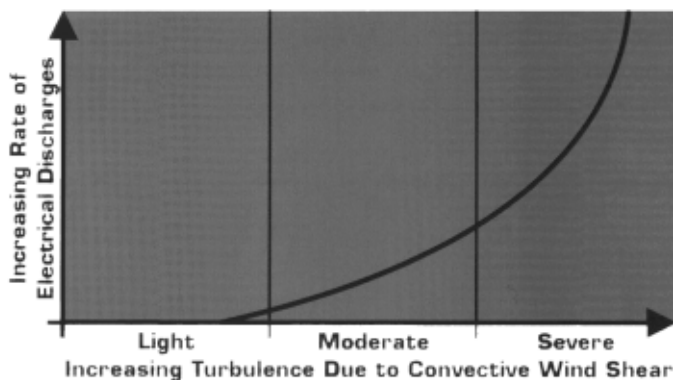

Figure 13-3 - Discharge Rate a Function of Wind Shear
d) All electrical discharges radiate electromagnetic signals in all directions at the speed of light. The electromagnetic signals have unique characteristics and varying rates of recurrence and signal strength. Figure 13-3 shows that the rate of electrical discharges detected in an area is directly related to the amount of convective wind shear turbulence present. In fact, as convective wind shear increases, the rate of electrical discharges increases at an increasing rate. This relationship means that if you find the electrical discharges, you've found the wind shear.